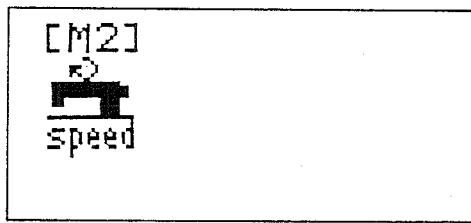

Fig. 3 Independent machine head operation screen (2)
- 3) When desired to change the speed, press the  key to set the speed. Press the  key so that the indication shown in Fig. 3 appears on the display.